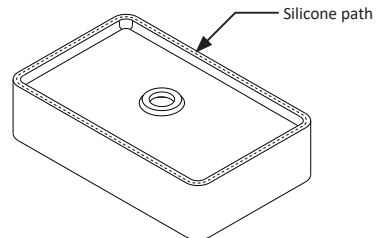

Figure 6.
5. Once plumbing and trap are in position, place waste through the basin. With seals in place, hand-tighten lock-nut/adaptor to secure waste in basin. See figure 6.